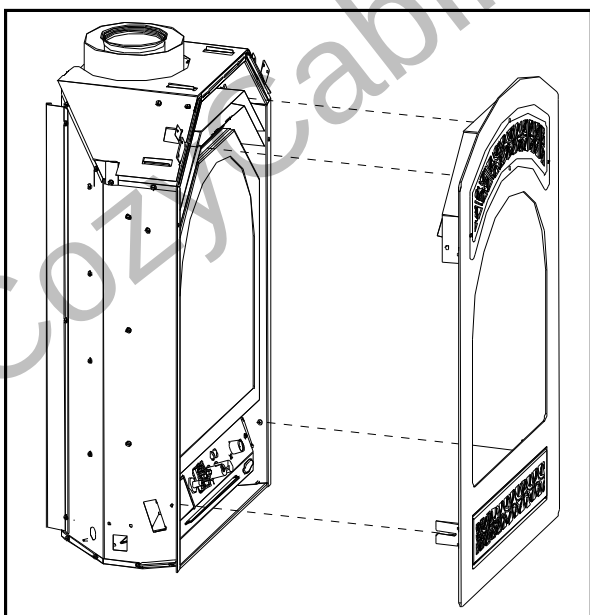

Figure 56: Installing Chalet onto The Retreat.
1. Ensure the lip with the tabs on the fascia is resting on top of the one on the Retreat (see Figure 56).
2. Slide the two (2) mounting slots at the bottom of the fascia onto the studs on the Retreat (see Figure 56 & 57).